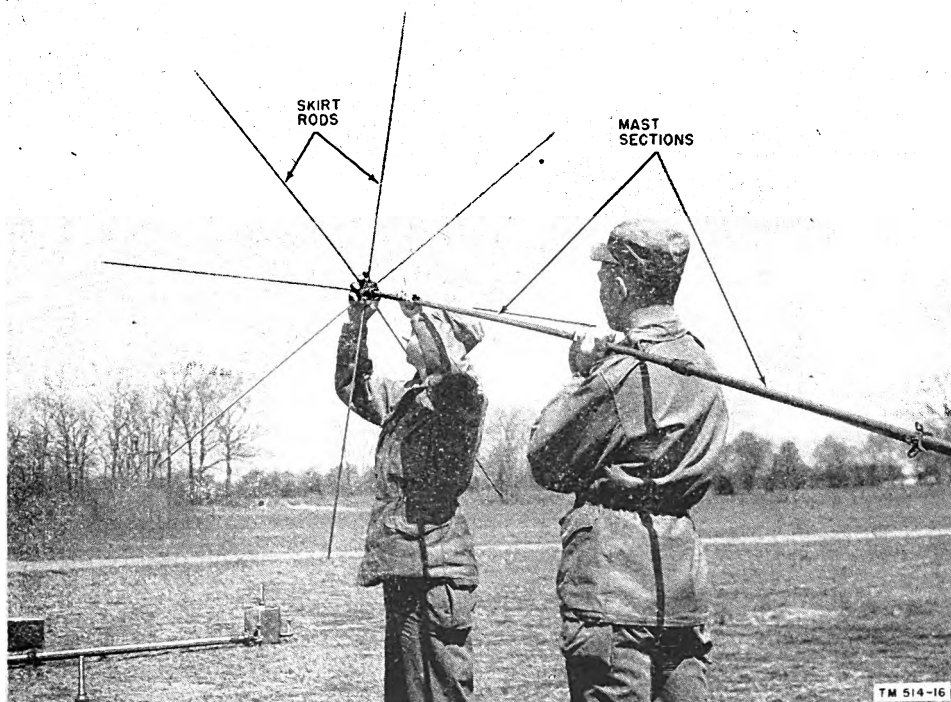

Figure 33. Inserting center stub of antenna skirt into top of mast section.
- (b) Mount the antenna skirt to the mast by inserting the center stub into the top of the mast section (check to see that the stub is all the way in) and tighten the coupling ring on the mast section until the collet inside the ring is fastened securely around the stub (fig. 33).